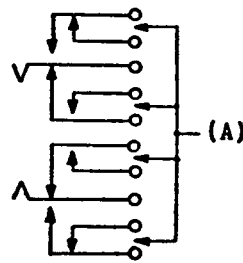

Fig. 7
- (c) **Fig. 7(A)**: Plunger springs having make-before-break combinations on each side shall have contact separation for contacts which never touch the plunger spring of — 0.008 inch (Readjust — 0.010 inch).